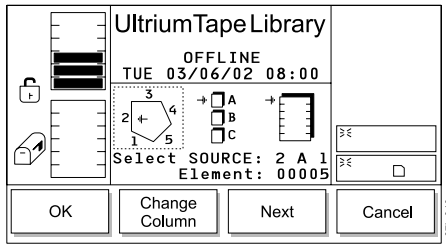

Figure 139. Source Move Media Dialog
3. Press the button below the **Move Media** softkey. The Source Move Media Dialog displays (see Figure 139 on page 128) with a message area that shows three icons:
The position of the arrow in each of the three icons identifies the storage slot's physical address. For example, arrows that point to a column 2, magazine A, and storage slot 1 indicate a physical address of 2 A 1. In the Source Move Media Dialog, a slot's physical address displays below the right icon (see Figure 139).